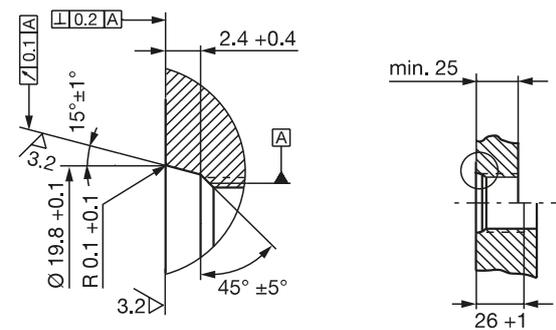

Fig. 4-3: Mounting hole M18x1.5 per ISO 6149 O-ring 15.4x2.1
- ▶ Make a mounting hole with thread (possibly with countersink for the O-ring) acc. to Fig. 4-3.